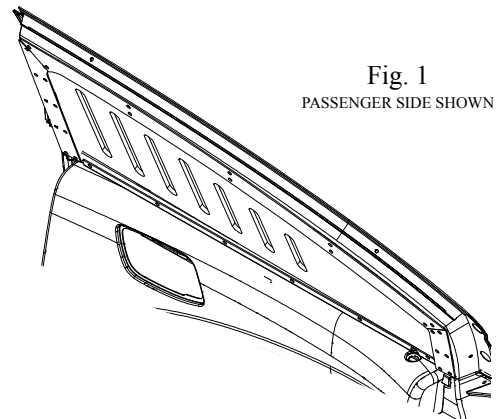

Fig. 1
1. From the inside of the door place the Barrier into the corresponding window opening with the lower flange resting on the top of the OEM Door Panel. Insure that the rear flange is installed behind the OEM Door Panel and between the rubber window seal (See Fig. 1).